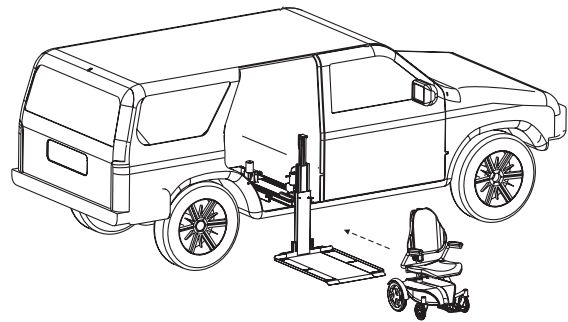

Figure 3-8
1. Determine heaviest portion of the power chair or scooter. This is usually under the drive wheels, motor(s), and batteries. Always drive onto platform with the heaviest portion closest to the lifting tower. Most often this method requires the chair or scooter to be loaded in reverse, and unloaded driving forward. Set your chair or scooter's speed control to slow speed to maneuver easily onto the platform. *See Figure 3-8.*